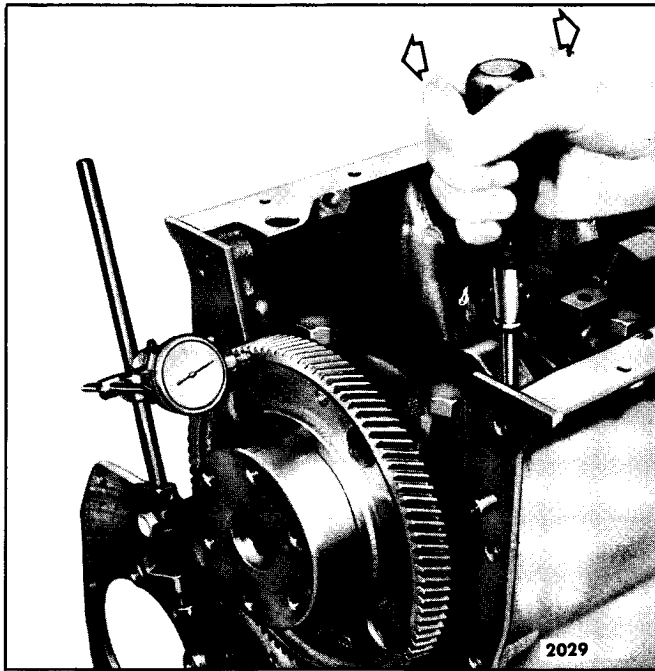

Fig. 11 - Checking Crankshaft End Play
- Check the crankshaft end play by moving the crankshaft toward the gage (Fig. 11) with a small (less than 12") pry bar. Keep a constant pressure on the pry bar and set the dial indicator to zero. Then, remove and insert the pry bar on the other side of the bearing cap. Force the crankshaft in the opposite direction and note the amount of end play on the dial. The end play should be .004" to .016" with new parts or a maximum of .018" with used parts. Insufficient end play can be the result of a misaligned rear main bearing or a burr or dirt on the inner face of one or more of the thrust washers.